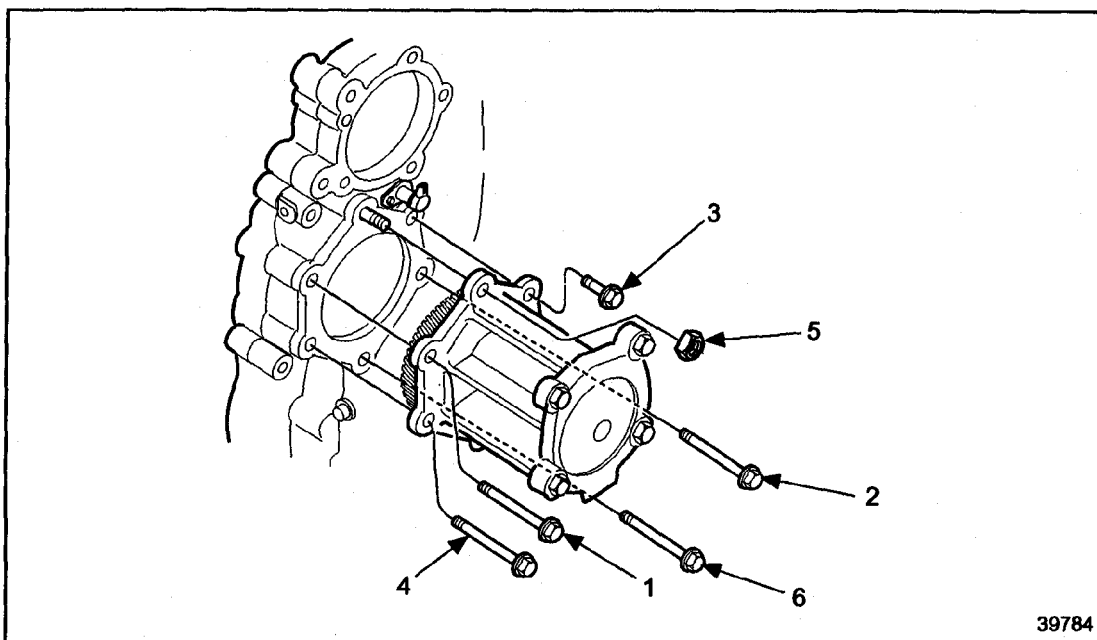

Figure 10-37 Bolt Torque Sequence
3. Torque the five bolts and one nut to 58 - 73 N·m (43 - 54 lb·ft), using the required torque pattern. See Figure 10-37.